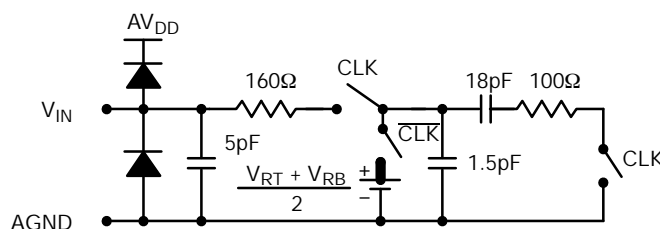

Figure 8. Equivalent Input Circuit
- ⁵ See V_{IN} equivalent circuit (Figure 8.). Switched capacitor analog input requires driver with low output resistance.
This part has a switched capacitor type input circuit. This means that the input impedance changes with the phase of the input clock. V_{IN} is sampled at the high to low clock transition. Figure 8. shows an equivalent input circuit.